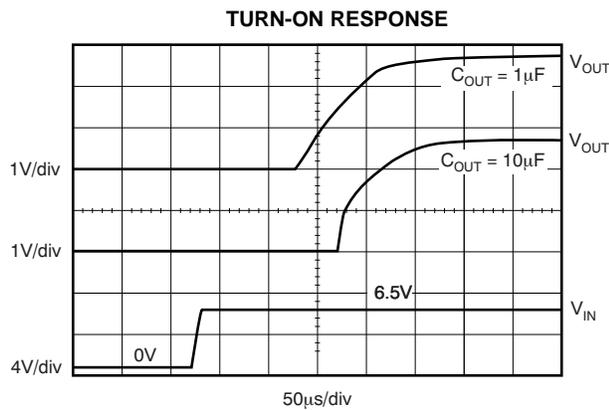

Figure 31.
Note that for fastest startup,  $V_{IN}$  should be applied first, then the enable pin (EN) driven high. If EN is tied to IN, startup will be somewhat slower. Refer to Figure 31 in the Typical Characteristics section. The quick-start switch is closed for approximately 135 $\mu$ s. To ensure that  $C_{NR}$  is fully charged during the quick-start time, a 0.01 $\mu$ F or smaller capacitor should be used.